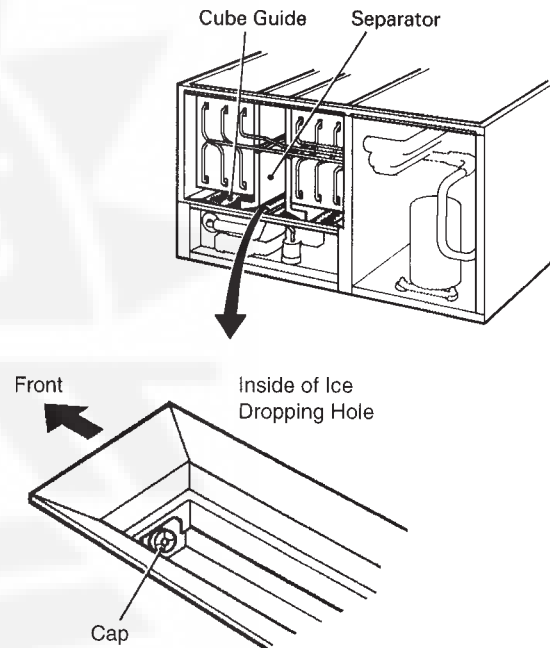

Fig. 7
- 8) Remove the insulation panel. Remove the cap located on the front bottom part of the ice dropping hole. Drain the water tank to flush any loose debris. See Fig. 7.
- 4) Have the shipping carton, tape, and packing material been removed from the icemaker? Are the cube guides in their correct position? Are the separators properly attached to their holding clips? See Fig. 7.